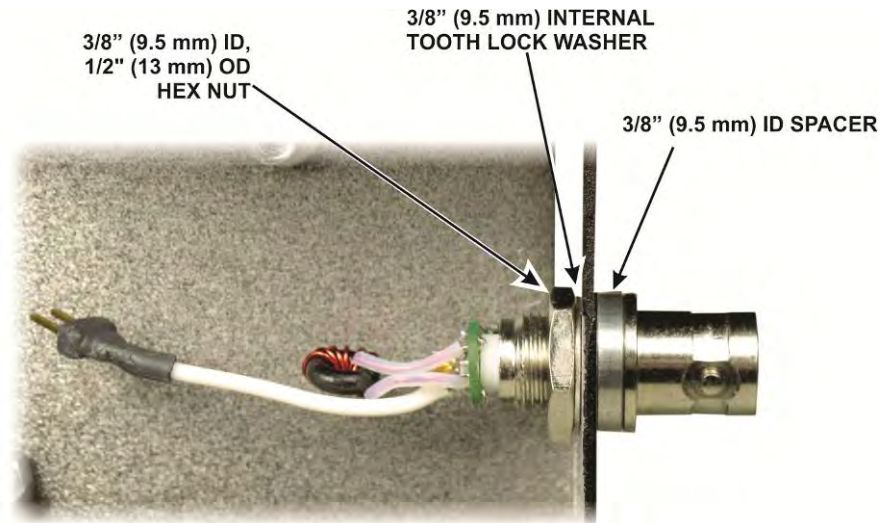

Figure 40. Antenna Connector Mounted on Bottom Cover.
□ Mount the antenna connector assembly in the largest hole in the bottom cover end plate as shown in Figure 40. Note that the hole has a flat side. Align it with the flat on the connector.